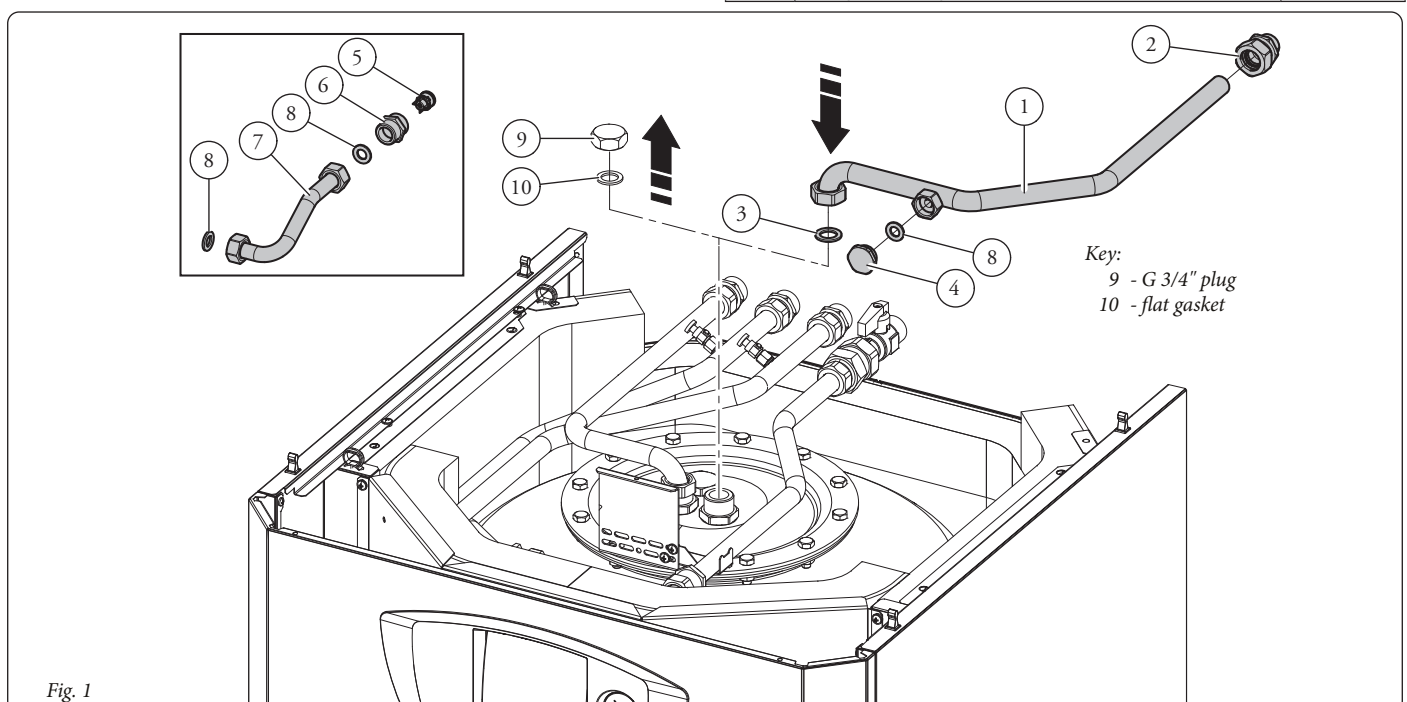

Fig. 1
- Remove the 3/4" plug (9) with its gasket (10) from the probe fitting located on the top flange of the storage tank unit.
- Connect the recirculation pipe (1) fitted with nut to the storage tank unit probe fitting, placing the flat gasket (3) included in the kit in between.
- Screw the plug (4) onto the pipe (1) making sure to place the flat gasket (8) in between.
- Connect the recirculation pipe (1) to the DHW recirculation system by means of the 1/2" radial seal fitting (2) included in the kit.
N.B.: the components (fig. 1 pos. 5, 6, 7 and 8) are not used in this installation.